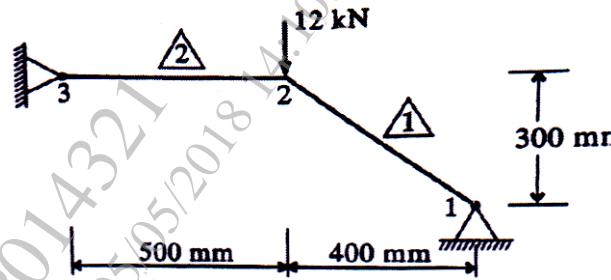

Fig. 2
- Q3)** For the two bar truss shown in Figure 2 determine the nodal displacement, stresses in each element and reaction at support take $E = 2 \times 10^5 \text{ N/mm}^2$ and $A = 200 \text{ mm}^2$. [8]